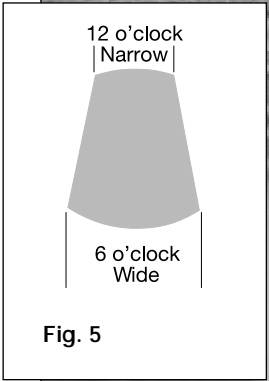

Fig. 5
- Before fitting the cover (2) ensure power spindle (6) and temperature spindle are in the correct position; for example, power spindle has narrow side at the 12 O' Clock position (see Fig. 5) and the temperature spindle has locking clicker (5) at the 6 O' Clock position.